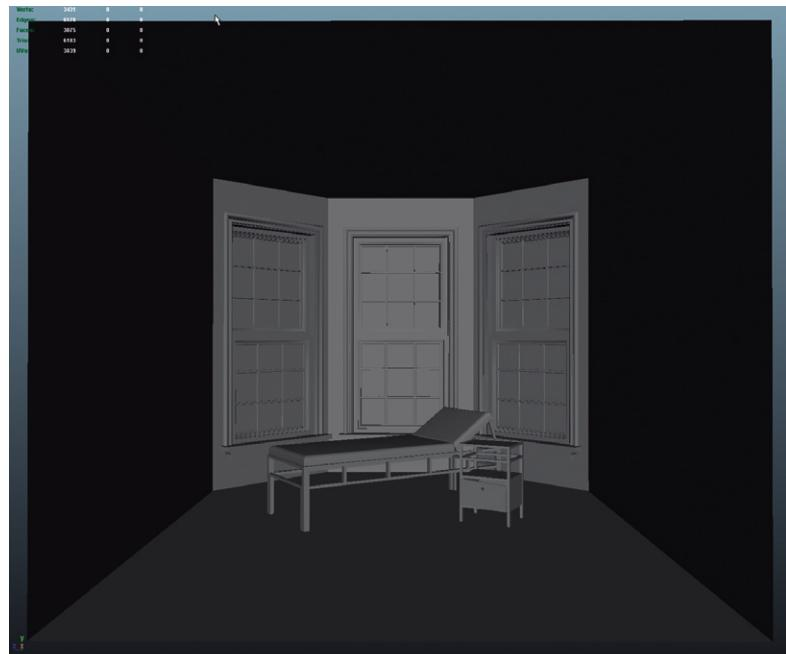

FIG. 5.5 Base room to be UV mapped – the results of earlier tutorials.
Step 1: Open and isolate the room to UV. In the course of this tutorial, we will be UV mapping the results of some earlier tutorials. Namely, the room shown in Fig. 5.5 was created a few chapters ago and will provide several interesting challenges and illustration opportunities. If you have your own version of this room, go ahead and open it, or if you’d prefer to use the exact same assets at the tutorials use, download it at <http://www.GettingStartedin3D.com>. Look under the Tutorials & Support files in the Chapter 5 thread. The file we’ll be using is called Hallway_Chapter5UV_Start.mb. If you wish to use this one, download it, unzip it, place it within your project file’s *scenes* folder, and then open it in Maya (File > Open).